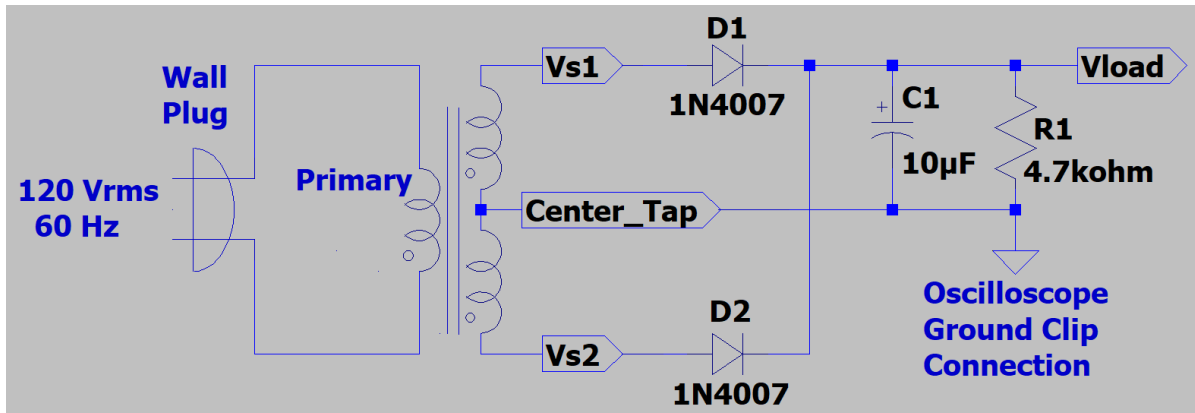

Figure 5: Full-Wave Diode Rectifier Circuit Using a Center-Tapped Transformer.
The **Auto** button illustrated in the upper left-hand corner of the screen in **Figure 5**, provides for automatic waveform adjustment. The **Auto** setup button is useful whenever you lose track of the waveform being measured or connect the probes to a new waveform.
1. With the transformer turned off, connect up a full-wave center tapped transformer rectifier as shown in **Figure 5** below. **Be careful to connect the polarized capacitor C1 with the proper polarity to prevent this capacitor from exploding!** On the physical capacitor the lead adjacent to a negative polarity stripe on the body of the part indicates the negative lead, which corresponds to the curved plate on the schematic symbol.
Calculate the expected peak-to-peak ripple voltage of the full-wave rectifier circuit of **Figure 5**, with I_{load} determined from $V_{load_meas_avg}$ value from **Table 2** and the load resistance of **Figure 5**. (Note that f_R is not equal to the standard US 60 Hz AC Power frequency.) (2 Points.)